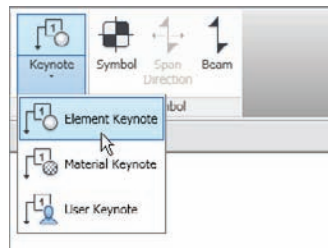

FIGURE 11.93 Select Keynote > Element Keynote.
3. On the Tag panel of the Annotate tab, select Keynote > Element Keynote, as shown in Figure 11.93.